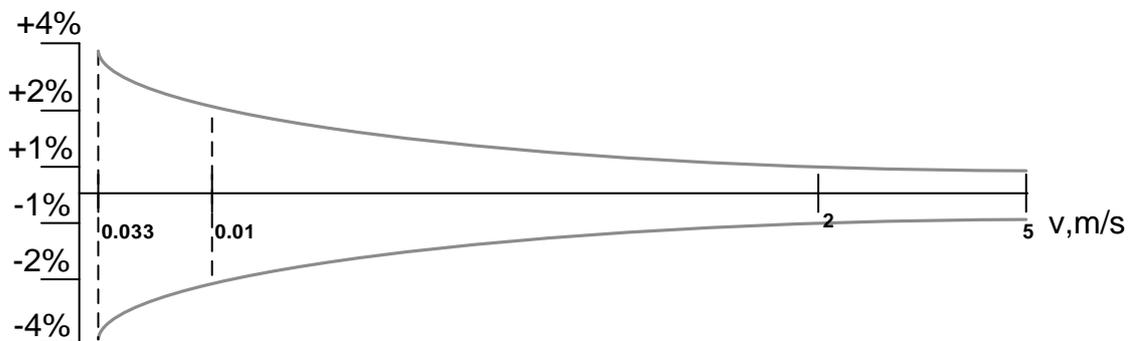

Fig.1. Diagram of real measurement error of the flow meter
1.3.2. The diagram of real measurement error of the flow meter is shown in Fig.1.